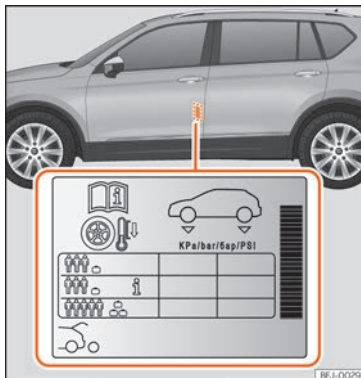

Fig. 319 Location of the tyre pressure sticker.
- Adjust tyre pressure to the load being carried by the vehicle » **Fig. 319**.
The tyre inflation pressures are listed on a sticker on the rear of the front left door frame » **Fig. 319**.
Depending on the vehicle, tyre pressure can be adjusted to medium load to improve driving comfort [tyre pressure **i** » **Fig. 319**]. When driving with comfort tyre pressure fuel consumption may increase slightly.
The tyre pressure must be adjusted according to the load the vehicle is carrying. If the vehicle is going to carry the maximum load, the tyre pressure should be increased to the maximum value indicated on the sticker » **Fig. 319**.
»» Fig. 319.
- The driver is responsible for ensuring that all of the vehicle tyres are correctly inflated to the right pressure. The recommended tyre pressure is indicated on the label »» Fig. 319.
- When the tyres are cold, tyre pressure should be that indicated on the label »» Fig. 319.